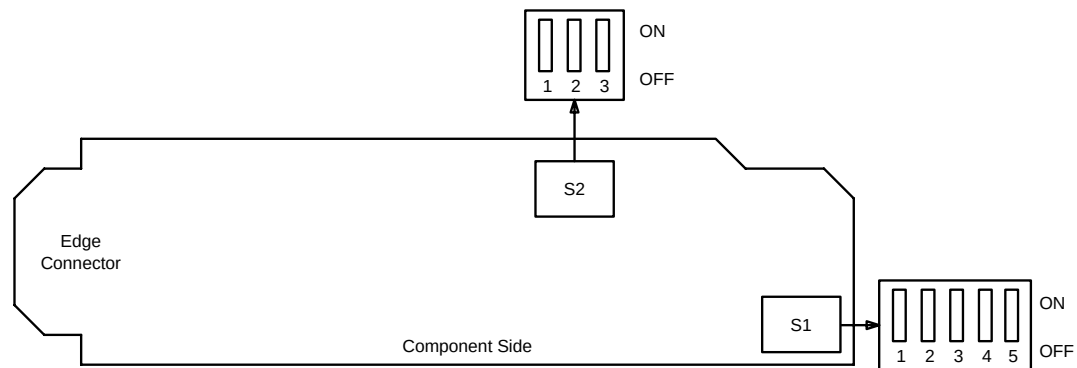

Figure 2. BBF2B TGS / BBF4 TG3 Option Switch
Determine timing mode from work order or office records. Refer to Table F and Figure 2 and set timing mode as required for **BBF2B TGS/BBF4 TG3** circuit pack(s).
14. If the **BBF2B TGS/BBF4 TG3** is provisioned for *sync out mode*, refer to Table G and Figure 2 and set equalizer switches for the proper cable length.
16. Refer to Table H and Figure 2 and set DS1 line coding and frame format as required for **BBF2B TGS/BBF4 TG3** circuit pack.